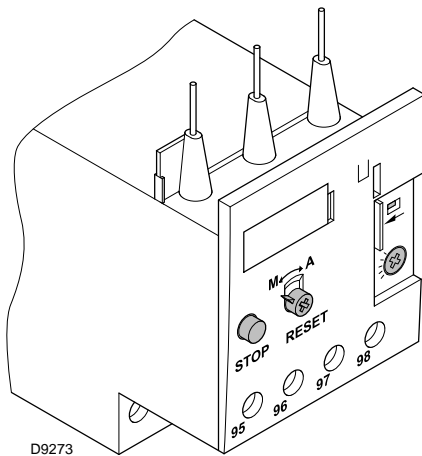

Fig. 37
The electro-mechanical thermal relay (Fig. 37) is used to avoid damage to the motor owing to a strong increase in absorption or the lack of a phase.
- To reset, in the case of an intervention of the thermal relay, press the button **"RESET"** (Fig. 37).
- The button **"STOP"** (Fig. 37) opens the NC (95-96) contact and stops the motor.